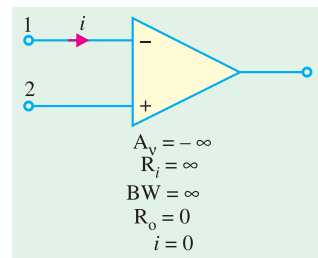

Fig. 68.3
An ideal *OP-AMP* (Fig. 68.3) has the following characteristics :
1. infinite input resistance means that input current $i = 0$ as indicated in Fig. 68.3. It means that an ideal *OP-AMP* is a voltage-controlled device.